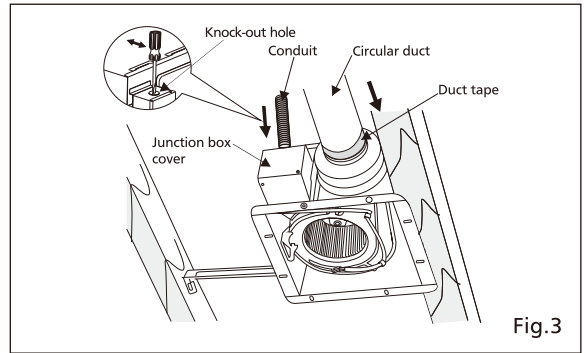

Fig.3
4. Install a circular duct and secure it with clamps, or wire ties and seal it with mastic or approved duct tape. A 4 or 6 inch circular duct is needed to connect to the relevant part of adaptor. (Fig.3)
5. Remove junction box cover and secure conduit or stress relief to junction box knock-out hole. (Fig.3)